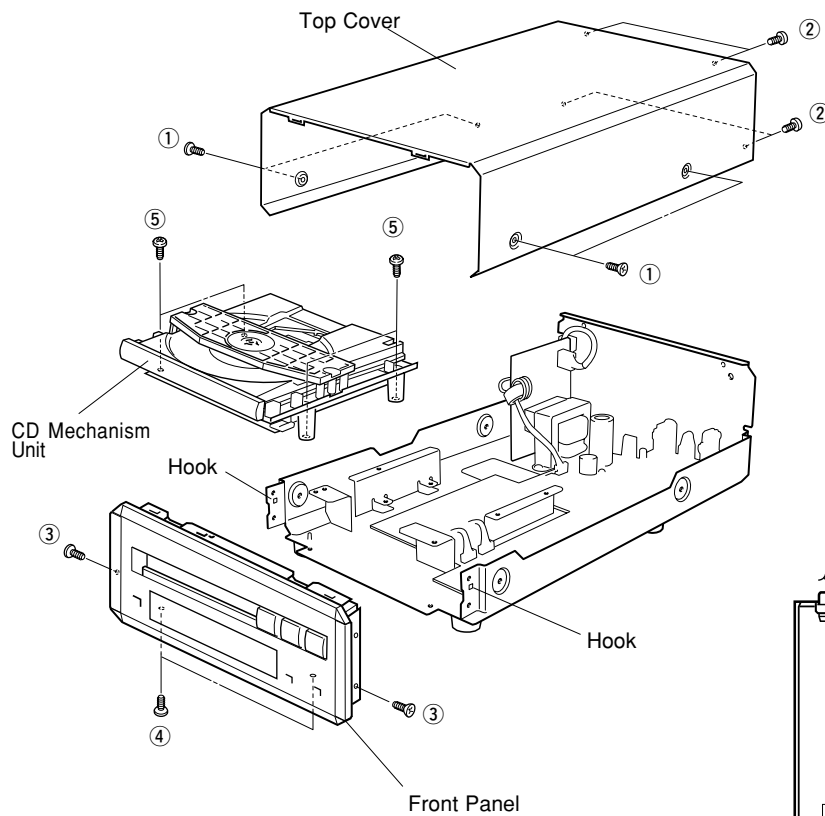

Fig. 1
- ① MAIN (3) P.C.B.
- ② MAIN (4) P.C.B. (R model only)
- ③ MAIN (1) P.C.B.
- ④ CD MECHANISM UNIT
- ⑤ MAIN (2) P.C.B.
- Remove 4 screws (①) and 4 screws (②) in Fig. 1.
- Remove 2 screws (③) and 2 screws (④) in Fig. 1.
- Remove 4 screws (⑤) in Fig. 1.
- Remove the CD Mechanism Unit in Fig. 1.